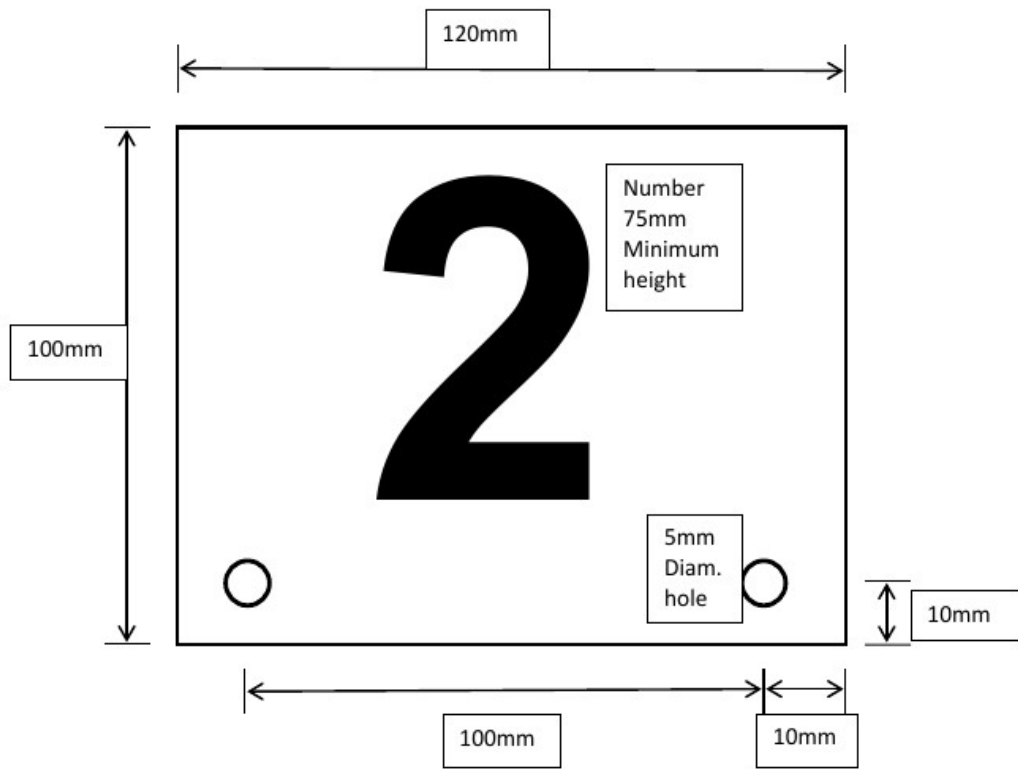

Figure 6: Number board
9. The course layout and race direction are shown in Figure 6 below.
See illustration Boat Number Boards in Figure 6. (And also used for Offshore events)
7. Boats must be fitted with the appropriate number board bracket as per NZMPBA requirements in Figure 6. The number board bracket is to be mounted at or above deck level and must be in front of the transom.
8. Competitors to supply their own number boards as per the NZMPBA general rules. See Figure 6.